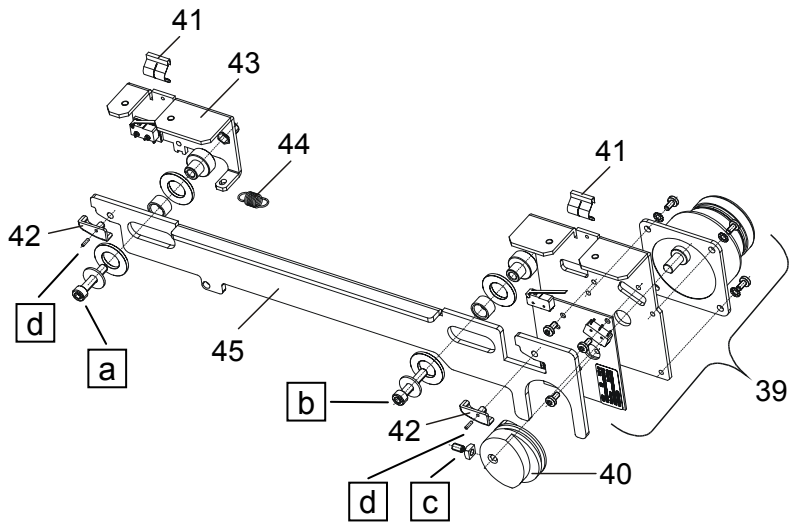

Fig. 8
- Suspend the tension spring (pg. 79, Fig. 8, item 46) on one side.
- Unscrew the fastening screw (pg. 79, Fig. 8, a).
- Use the hexagon pin driver to turn the eccentric disc (pg. 79, Fig. 8, item 42) until the hexagon socket points upwards.
- Unscrew the fastening screw (pg. 79, Fig. 8, b).
- Loosen the hexagon socket screw (pg. 79, Fig. 8, c) down on the eccentric disc (pg. 79, Fig. 8, item 42).
- Remove the eccentric disc (pg. 79, Fig. 8, item 42) from the motor axis.
- Unscrew the two fastening screws (pg. 79, Fig. 8, a and b) and remove the connecting rod (pg. 79, Fig. 8, item 47).
- Push the steel pin (pg. 79, Fig. 8, d) from behind out of the sliding block (pg. 79, Fig. 8, item 44) using a suitable tool.
- Remove the sliding block (pg. 79, Fig. 8, item 44).
- Carefully drive the steel pin (pg. 79, Fig. 8, d) from the front into the borehole of the sliding block (pg. 79, Fig. 8, item 44) with a hammer.